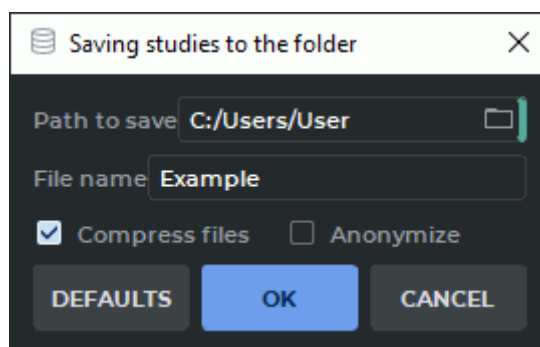

Figure 1.12: Saving studies to the folder dialog
5. In the dialog that opens (Fig. 1.12) set up the following parameters:
6. In the **Saving series to the folder** dialog box that pops up, provide the required parameters. The interface of the dialog box is identical with the interface of the dialog box for saving studies to a folder (see Fig. 1.12).